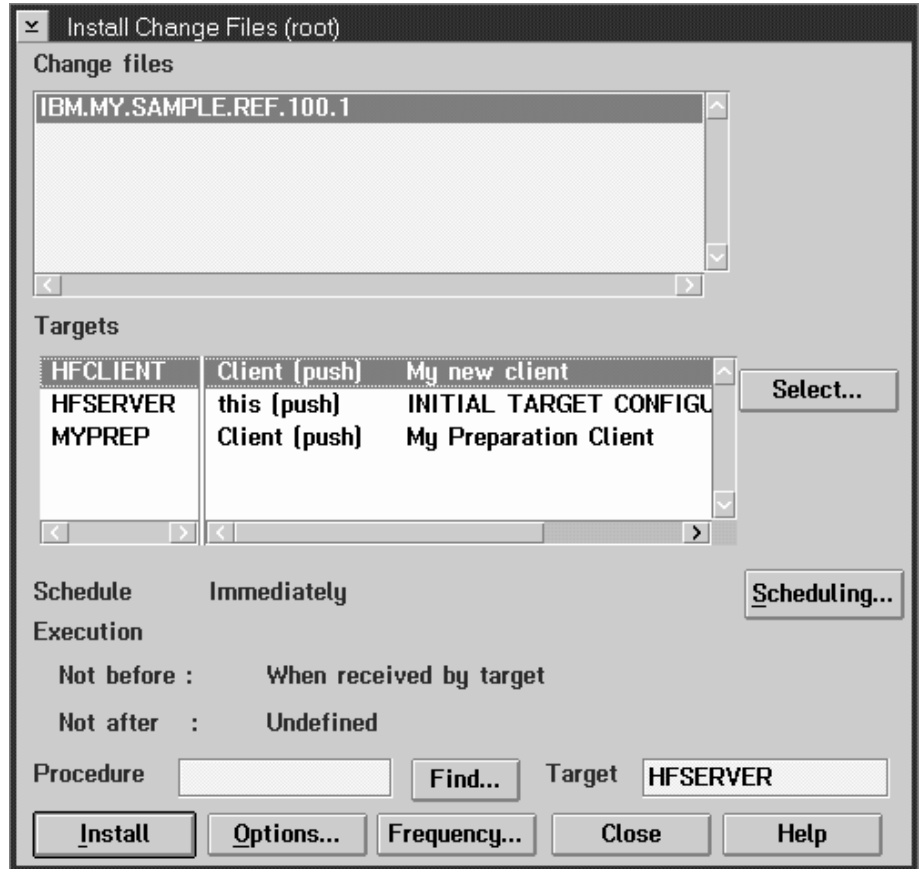

Figure 70. Install Change Files window
- 5 Select **Install...** from the **Selected** menu choice. The Install Change Files window is displayed, as shown in Figure 70.
- 10** Click on the **OK** push button. The Install Change Files window is displayed, as shown in Figure 70 on page 163.